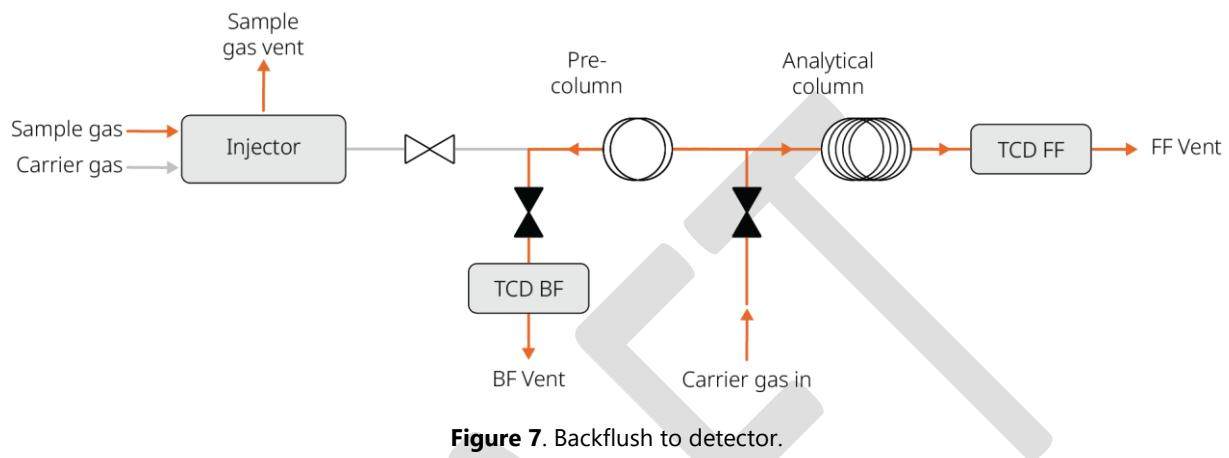

Figure 7. Backflush to detector.
After a certain time, the flow is switched to the backflush (BF) state. The 'carrier gas'-valve in between the columns is opened and the gas flows backwards in the pre-column and simultaneously keeps on flowing forward in the analytical column. The backward flow of the pre-column is led to the backflush TCD and to the backflush vent, see Figure 7. In this way, unwanted components that move slowly through the pre-column are prevented from entering the analytical column; so, in principle the pre-column backflush works as a filter. Note that separated sample components in the pre-column will group again during backflush and consequently result in a single so-called backflush peak at the backflush detector.